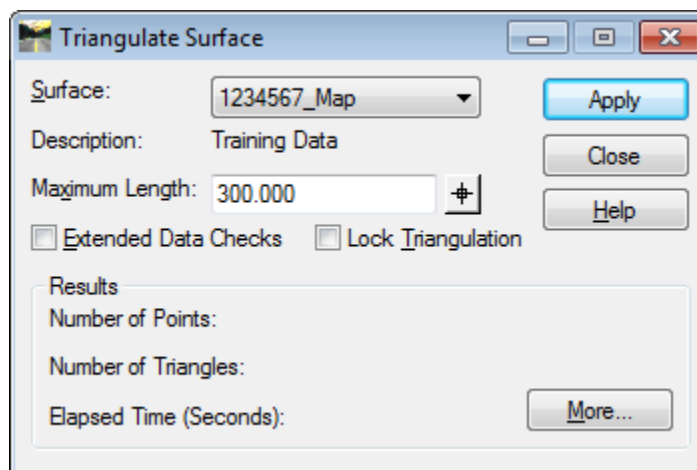

Figure L3-1 Triangulate Surface
5.	<p>The “Preliminary” Surface will now be triangulated for use in the resolution of crossing segments.</p> <p>Select Surface ► Triangulate Surface. The Triangulate Surface dialog box will open.</p> <ul style="list-style-type: none">• In the Surface: Pulldown – select 1234567_Map• In the Maximum Length: field enter – enter 300.00 <p>Leave all other entries as default.</p> <p>The inputs should now correspond to the screen capture depicted in Figure L3-1 (as shown below). Verify to ensure that your input matches the screen capture.</p> <p>Opens the Triangulate Surface dialog box.</p>